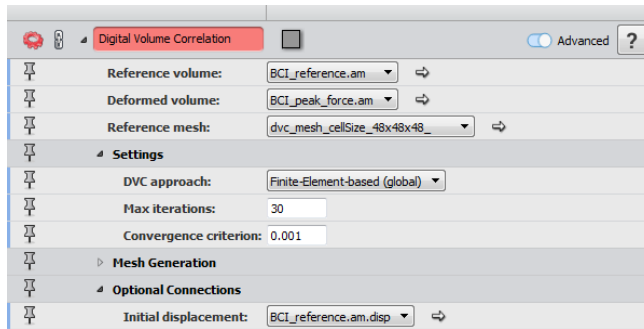

Figure 19.12: Finite-Element-Based (global) Approach.
- Change the port *DVC Approach* to *Finite-Element-based (global)*. Set the *Max Iterations* port to 30 and *Convergence criterion* to 0.001. Attach the mesh `dvc_mesh_cellSize_48x48x48_` to the port *Reference mesh*. In the *Optional Connections* section, set the *Initial displacement* to `BCI_reference.disp` (displacements computed using the local approach with a sub-volume size of 110 voxels) (see Figure 19.12). Click **Apply**.